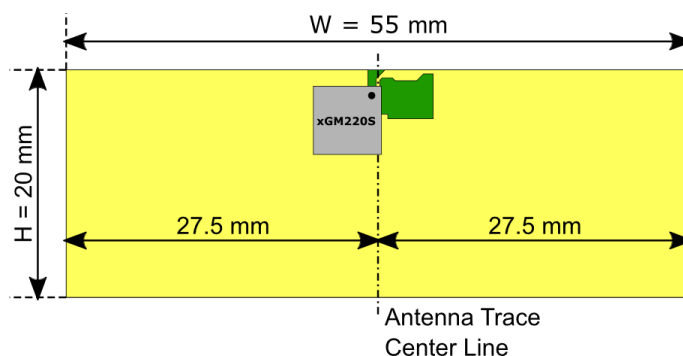

Figure 4.1. Optimum PCB Dimensions and Module Placement
- Place the BGM220S at the center of a PCB edge with ~55 mm length. The center line of the first antenna trace (which is perpendicular to the board edge) should coincide with the PCB edge center line (as shown in Figure 4.1 Optimum PCB Dimensions and Module Placement on page 5).